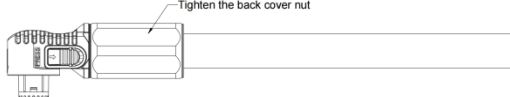

Figure 6-7-6 Tighten the back cover nut
- 6) Tighten the back cover nut with a recommended torque of 1.5-2 N·m. The assembled cable is shown in Figure 6-7-6.